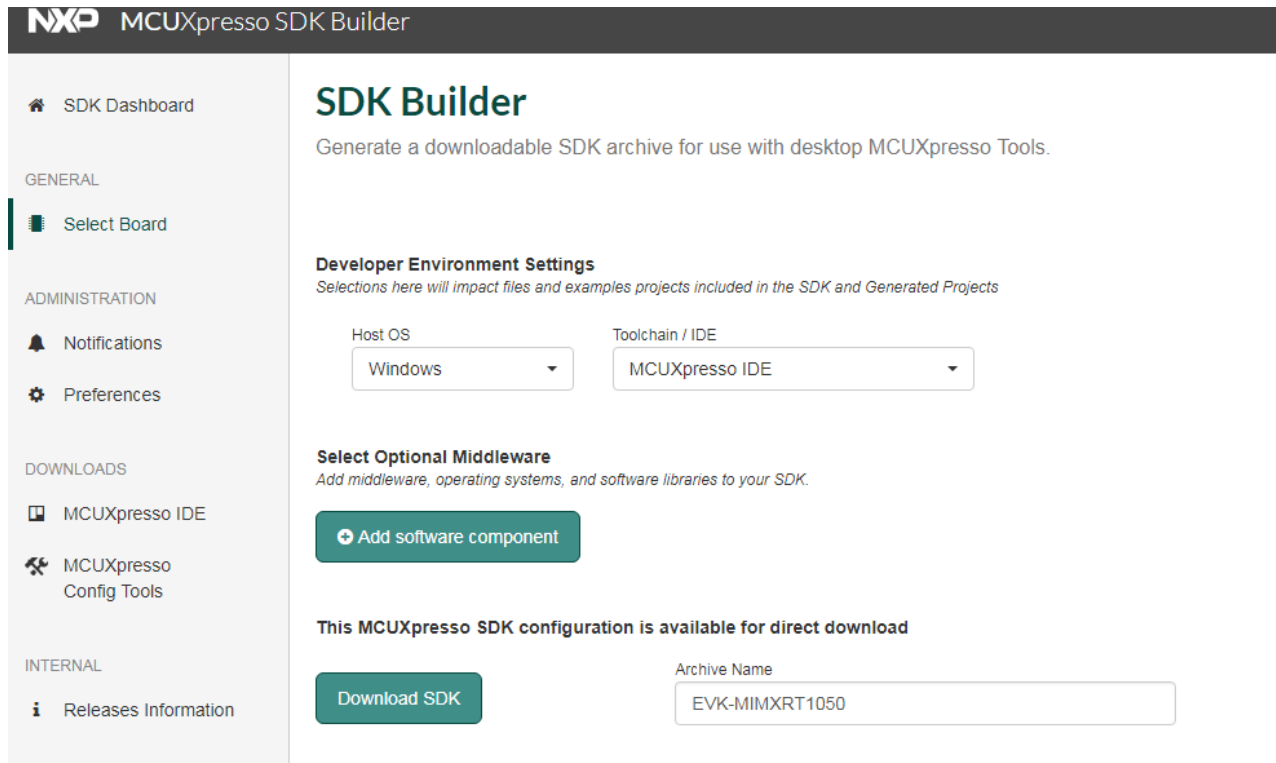

Figure 7. MCUXpresso SDK download
2. Select “EVK-MIMXRT1050”. On the right-hand side, click “Build MCUXpresso SDK”. You are going to see something like this (Figure 7):